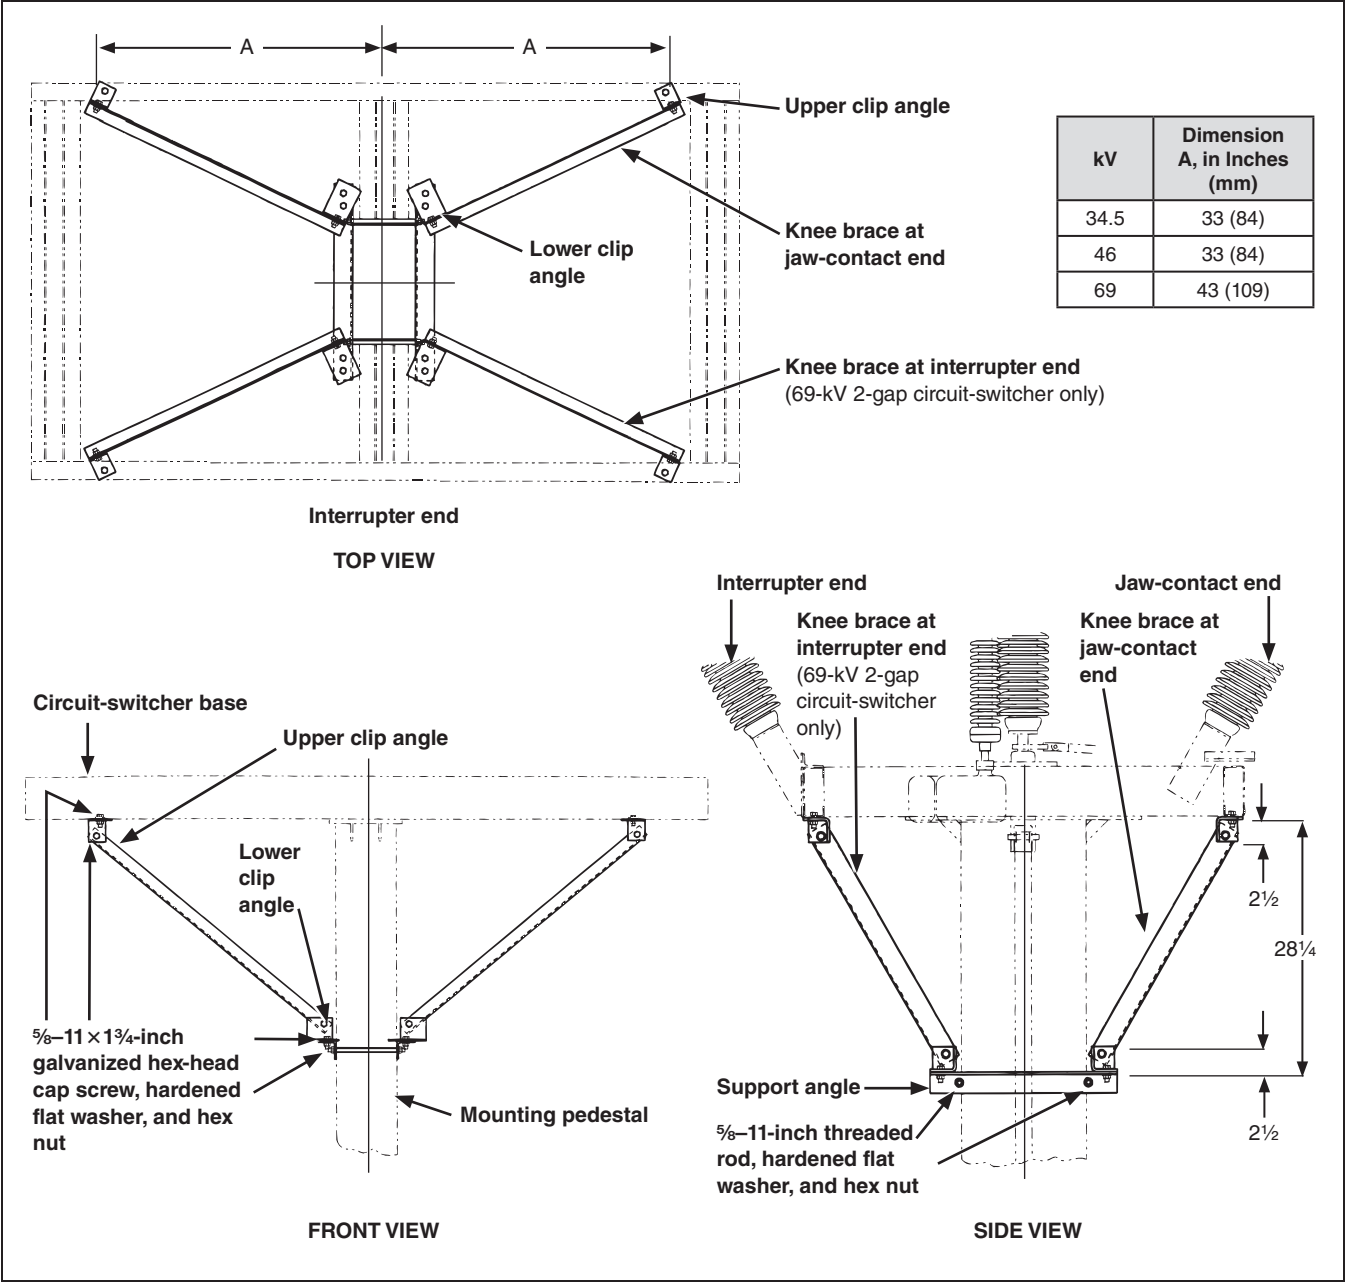

Figure 9. Installation of knee-brace assembly.
**STEP 1.** Loosely assemble an upper clip angle and lower clip angle to each end of a knee brace using a  $\frac{5}{8}$ -11  $\times$  1 $\frac{3}{4}$ -inch galvanized hex-head cap screw, hardened flat washer, and hex nut. See Figure 9 on page 11, front view and top view.
**STEP 2.** Loosely attach the knee-brace assembly to the circuit-switcher base in accordance with Dimension A, using a  $\frac{5}{8}$ -11  $\times$  1 $\frac{3}{4}$ -inch galvanized hex-head cap screw, hardened flat washer, and hex nut. See Figure 9 on page 11, top view and front view.
**STEP 3.** Loosely attach the two support angles to the circuit-switcher mounting pedestal using two  $\frac{5}{8}$ -11-inch threaded rods, hardened flat washers, and hex nuts. See Figure 9 on page 11, front and side views.
**STEP 4.** Loosely attach the lower clip angles to the support angles using  $\frac{5}{8}$ -11  $\times$  1 $\frac{3}{4}$ -inch galvanized hex-head cap screws, hardened flat washers, and hex nuts. See Figure 9 on page 11.
**STEP 5.** Push the support angles *up* as far as they will go and make sure there is no slack in the knee-brace assemblies. Verify the 28 $\frac{1}{4}$ -inch dimension shown in Figure 9 on page 11, side view. Tighten all hardware.